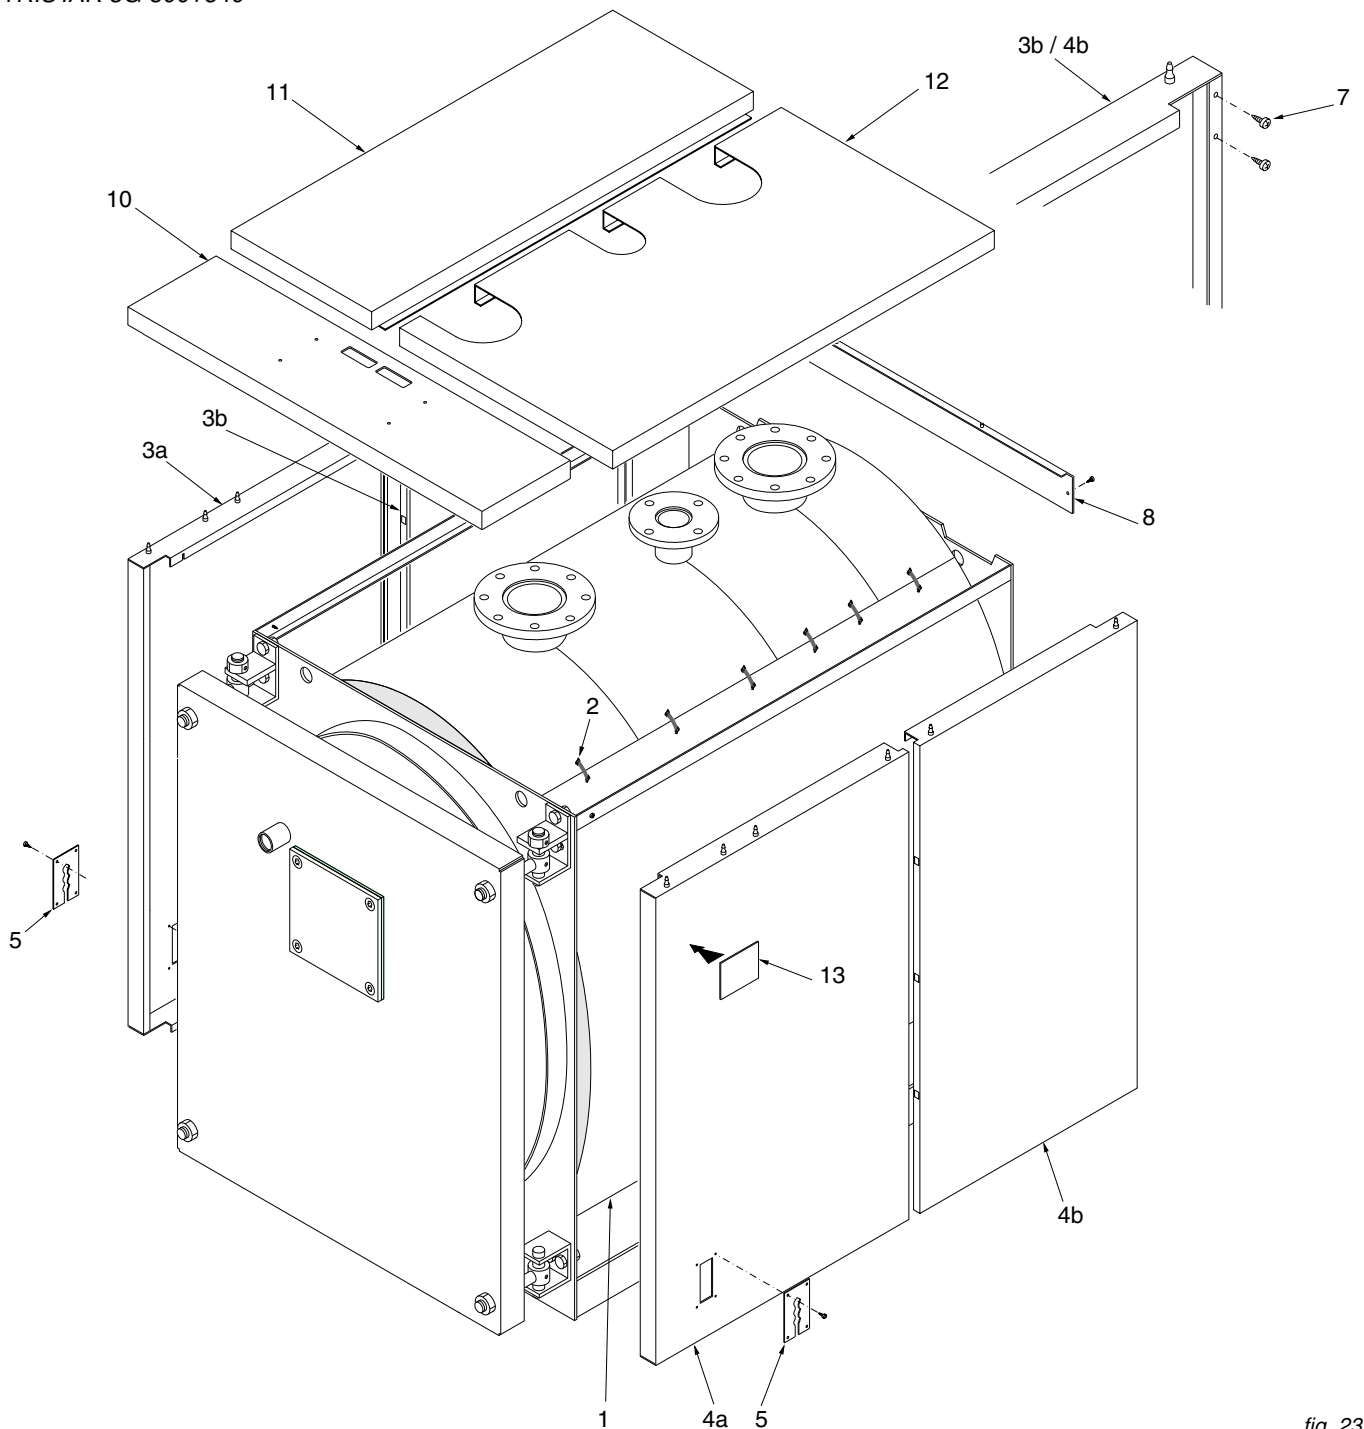

fig. 23
N.B. For models from **TST 3G 500** to **TST 3G 840** (ref. fig. 23 and 22), and for models from **TST 3G 1100** and **TST 3G 1600** (ref. fig. 24 and 27) the casing and insulation are contained in 3 boxes marked:
Assembly sequence (Ref. fig. 23)